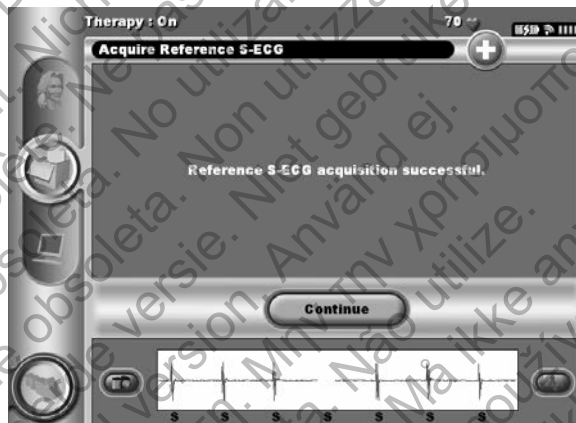

Figure 50: Captured Reference S-ECG confirmation
2. The Acquire Reference S-ECG process is automatically enabled during the Manual Setup Process. Select the Continue button to acquire a reference S-ECG. A confirmation screen will appear when the captured reference S-ECG is acquired (Figure 50).